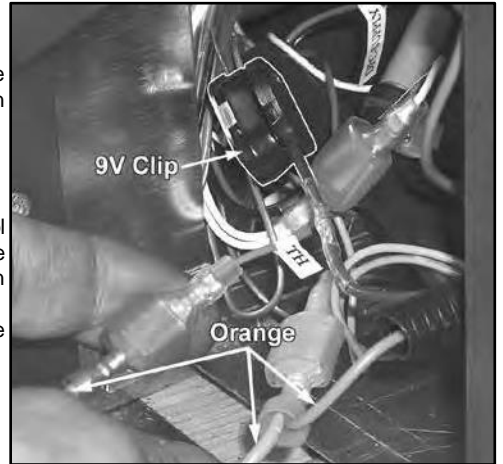

Figure 15: Disconnecting TH Wire & Connecting Orange Wires.
- c) Disconnect the TH wires from under the valve and plug in the two (2) orange wires as shown in Figure 15.